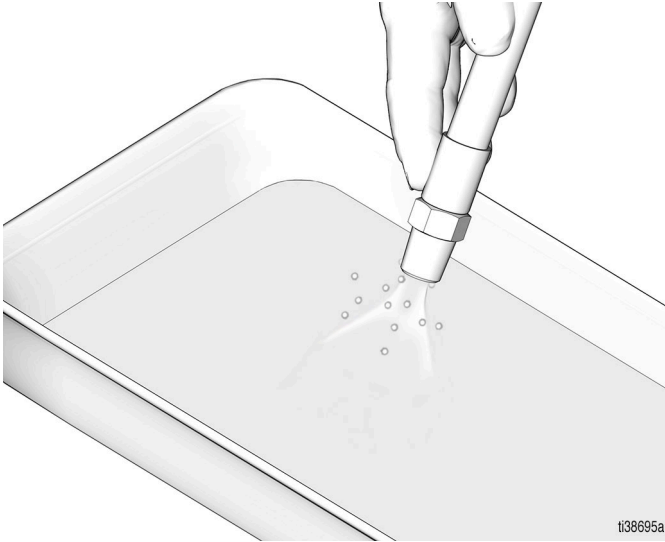

FIG. 3
2. Blow out the entire lubricant supply line with air (FIG. 3).